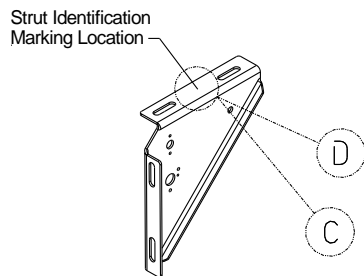

Fig.11
2. Dock Bumper Supports: Each strut brace has a marking for easy identification, the curb side strut has a “C” marking and the drive side strut has a “D”, **Fig.11**. Position the support channels perpendicular to a minimum of three of the vehicles cross members, move the channel horizontally for adjustment, **Fig.12**. Use clamps or similar devices to hold the support channels in place. Next position the strut against the dock bumper and support channel, clamp in place. Check for squareness. Finally, secure all components by welding.